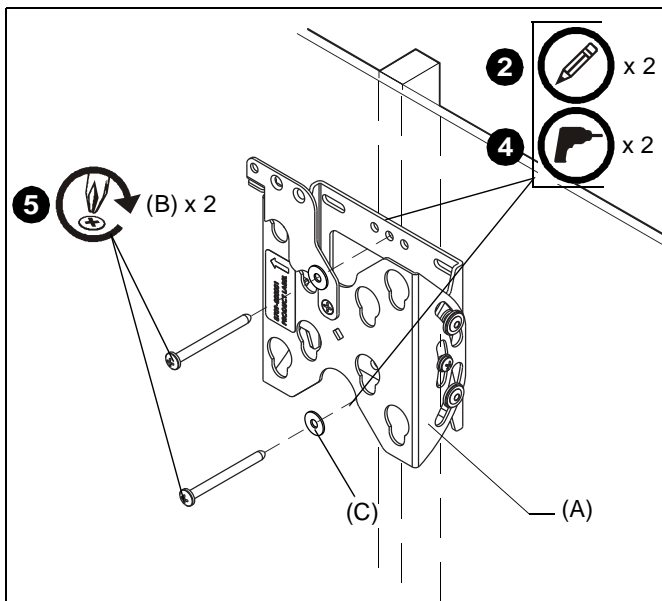

Figure 1
5. Fasten FTR1U/FTR100 assembly to wood stud using two #10 x 2-1/2" Phillips head screws (B) through two #10 washers (C), FTR1U/FTR100 assembly (A), and drywall (not shown) and install into pilot holes. (See Figure 1)